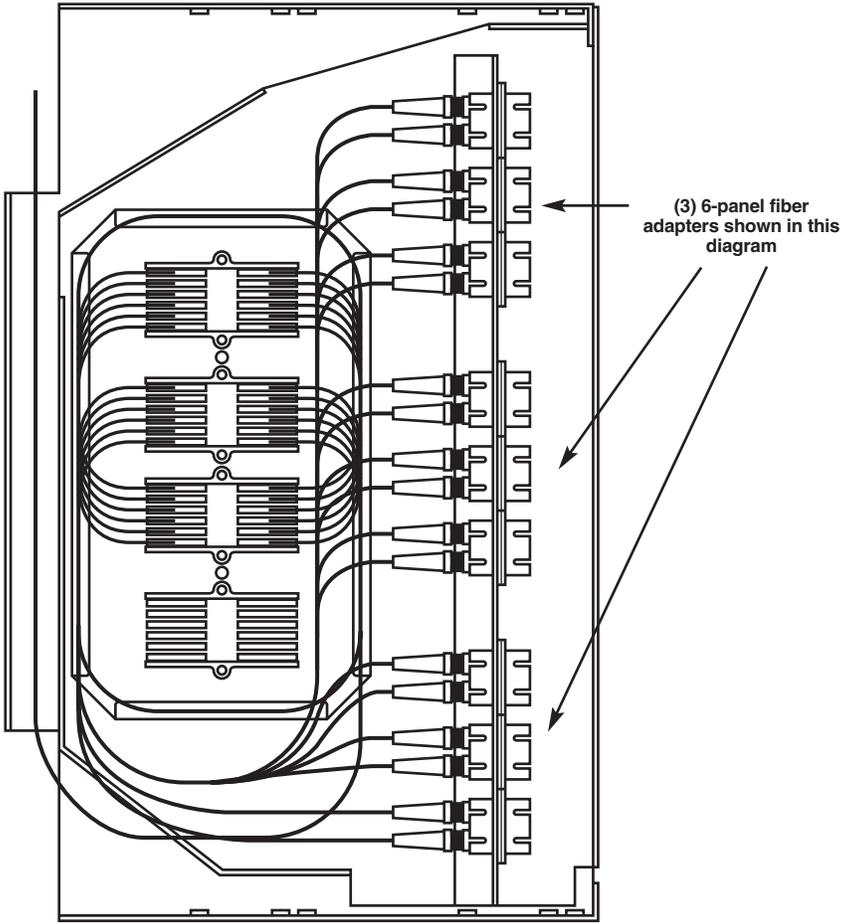

Figure 2. Wiring diagram.
9. Terminate the multi-pair fiber cable and connect to the fiber adapters. See Figure 2.